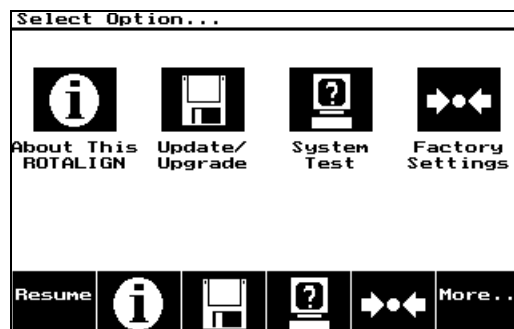

Figure 1
- In the Program Manager, press the  soft key several times until you arrive at the screen shown in Figure 1 below: